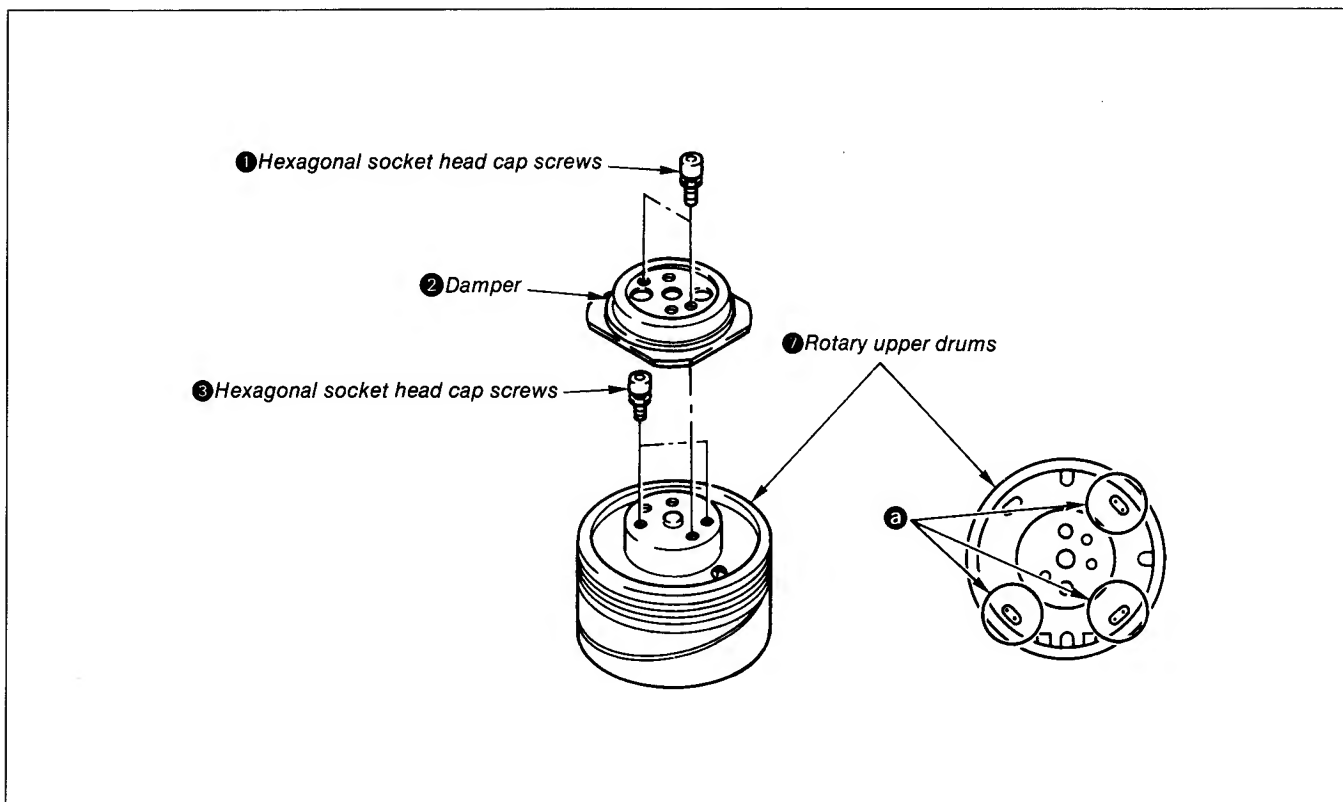

Fig. 8-39.
- 1) Remove two hexagonal socket head cap screws ❶ and damper ❷.
- 3) Remove two hexagonal socket head cap screws ❸. (See Fig. 8-39)